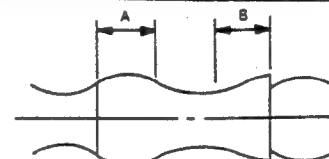

Fig. 2-7 Adjustment Point
- If the section B in Fig. 2-7 does not meet the specification, adjust the T-Guide Roller up or down.